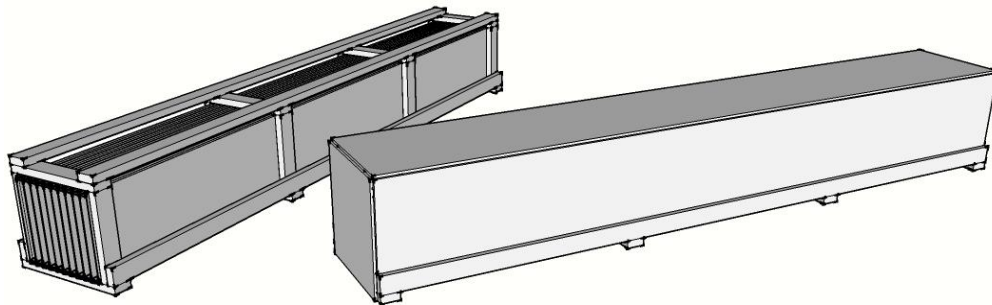

Figure 1: Packaging for panels (open crate and completely enclosed crate options)
- Advantage-Lok II panels are shipped in bundled units of approximately fifty panels. Panels are stacked on edge and are packaged with wood blocking in an open crate design. Space is provided under crates for access by forks of lift truck or inserting lifting slings/straps when offloading by crane (*Figure 1*).